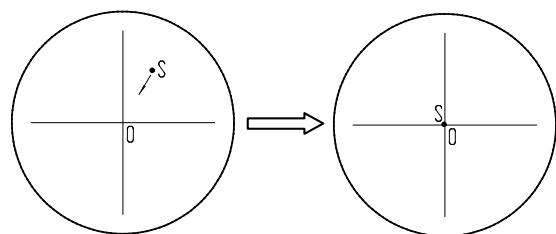

figure.20
- Push out push-pull rod **3**, observe with eyepieces. Find a feature point in the field of view (a readily identifiable target, such as *S* point in Fig. 20-a), move it to the center of the field of view. If there is a division eyepiece, move the target to the reticle intersection of the division eyepiece, as shown in Figure. 20-b.